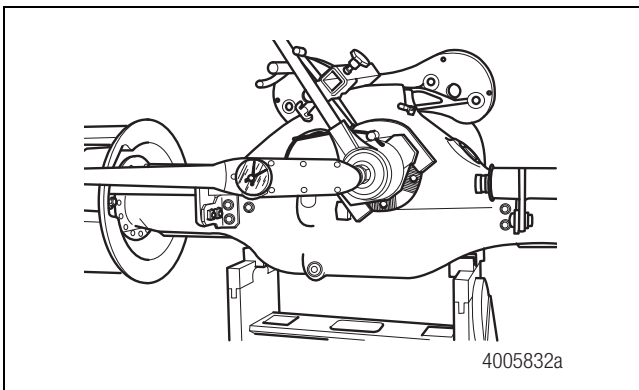

Figure 5.13
21. Install a new companion flange retaining nut and tighten to 465-565 lb-ft (630-766 N•m). Figure 5.13.